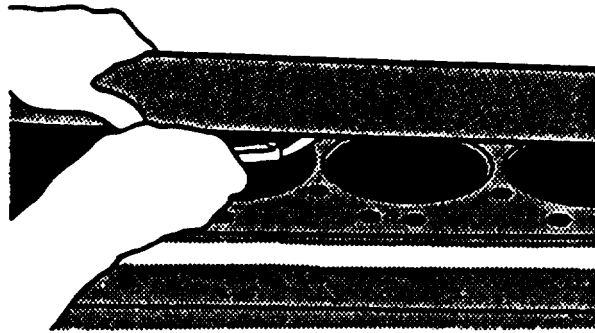

FIGURE 3-141. Measuring Cylinder Block Top Deck Flatness
- (6) Measure balancer shaft bushing bore diameters in engine block New bore diameter is 1.625 to 1.626 inches (41.26 to 41.29 mm). If diameter is more than specified, install oversize balancer shaft bushings.
- (7) Measure cylinder block top deck flatness using precision straightedge, refer to FIGURE 3-141. New flatness is 0.003 inch (0.08 mm). If flatness is not as specified, resurface engine block